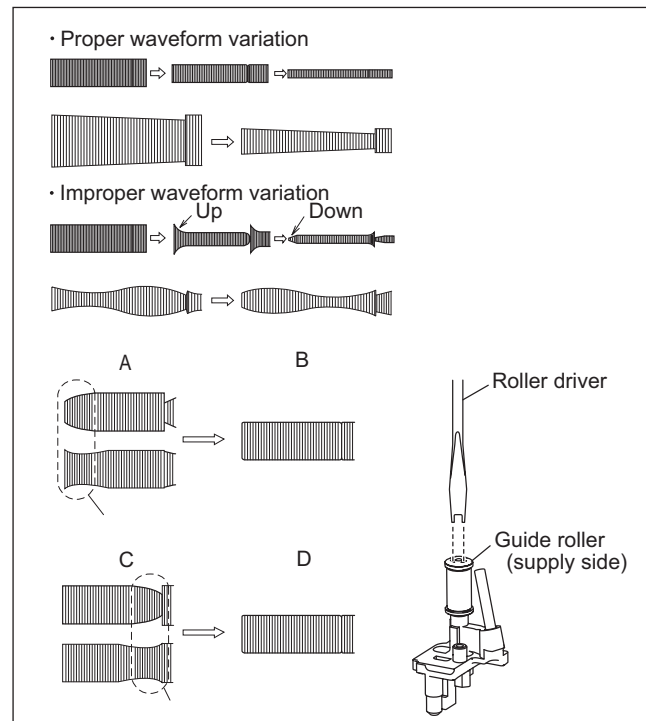

Fig.3-3-2a
- (1) Play back the alignment tape (A1).
- (2) Apply the external trigger signal to D.FF (E), to observe the V.PB FM waveform at the measuring point (D).
- (3) Set the VCR to the manual tracking mode.
- (4) Make sure that there is no significant level drop of the V.PB FM waveform caused by the tracking operation, with its generally parallel and linear variation ensured. Perform the following adjustments when required. (See Fig. 3-3-2a.)